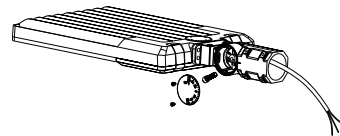

Figure 11
Step 2: Install the bracket on the fixture and fix the small round cap on the bracket. (Figure 11) Step 3: Loosen the four bolts on AM2 bracket, connect the wires correctly, and pull the wires into the poles.(Figure 12)